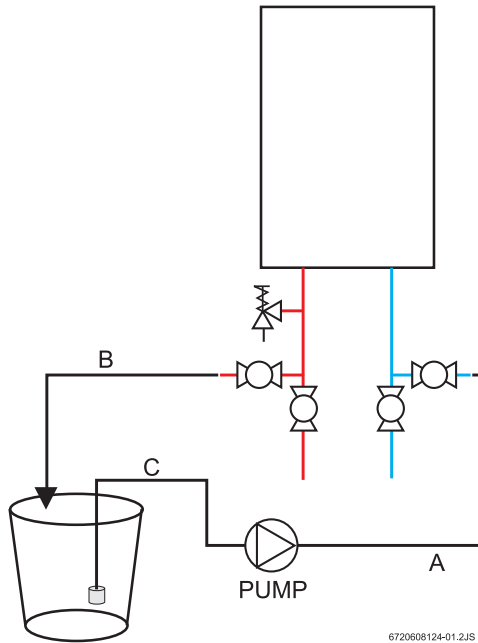

Fig. 56
5. Connect a line (A) from the outlet of the circulating pump (installer supplied) to the inlet water fitting on the water heater (see Fig. 56).
6. Using another line (B), connect to the water outlet fitting on the water heater. Route the other end of this line into a descaling reservoir.
7. Using a 3rd line (C) from the descaling reservoir, connect to the inlet side of circulating pump. Install a filter on the end of this line in the descaling reservoir.